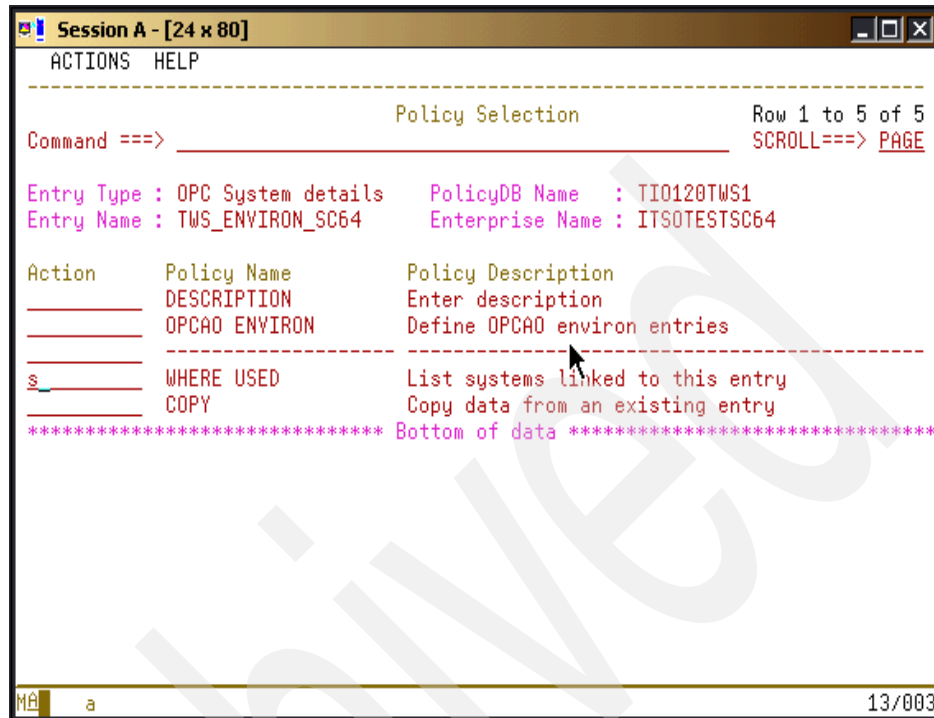

Figure 4-51 OPC System details Policy Selection panel
4. Press **PF3** to save the data. The Policy Selection panel that is shown in Figure 4-51 on page 157 displays.